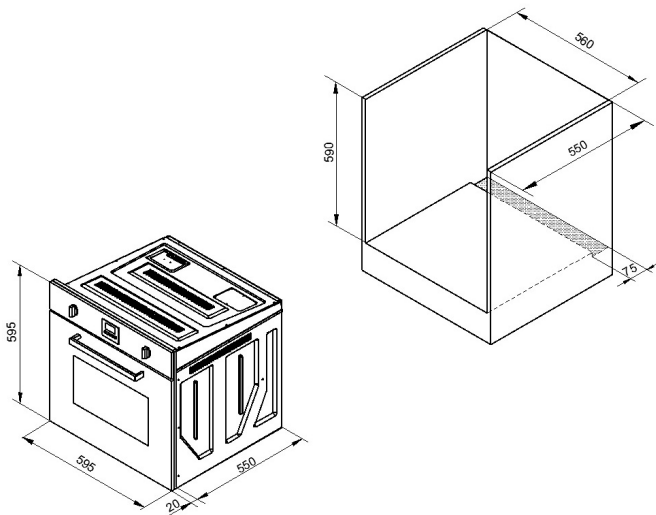
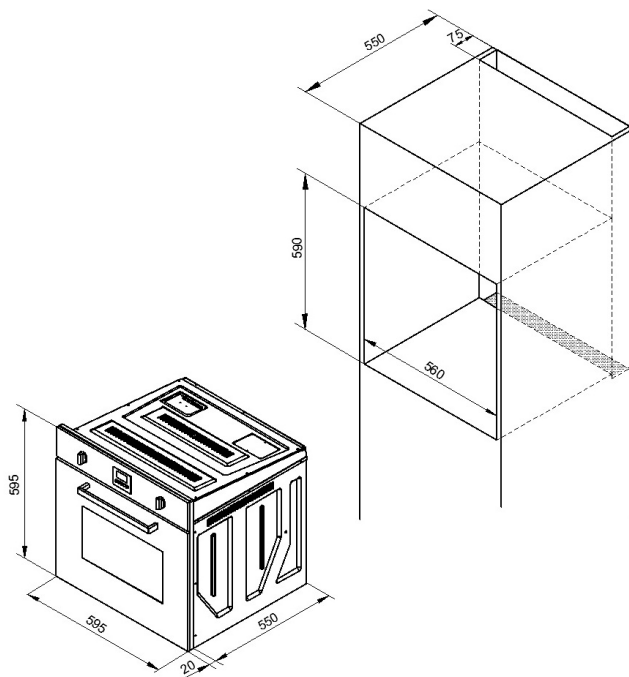

Figure 1
Figure 2
- ❖ The oven has been designed to be fitted into a kitchen unit. It can be fitted either under a worktop or in a taller cupboard unit at eye level. Cut out an opening in the kitchen unit as shown in. **(See Figure 1 and Figure 2)**
- ❖ For the most efficient air circulation, the oven should be fitted according to the dimensions shown in **(See Figure 1 and Figure 2)**